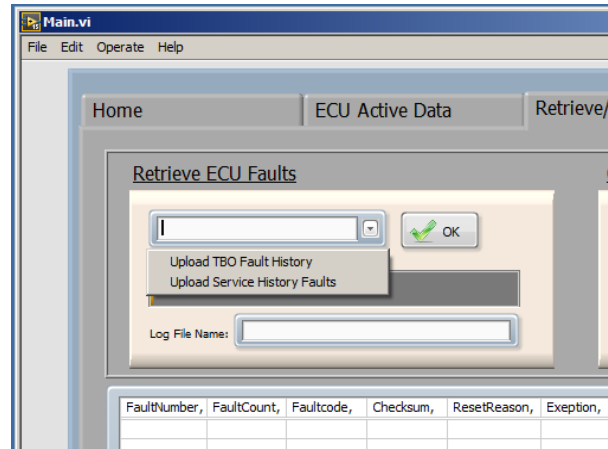

Figure 10
3. From the “Retrieve ECU Faults” drop-down menu (Figure 10) select one of the following options: